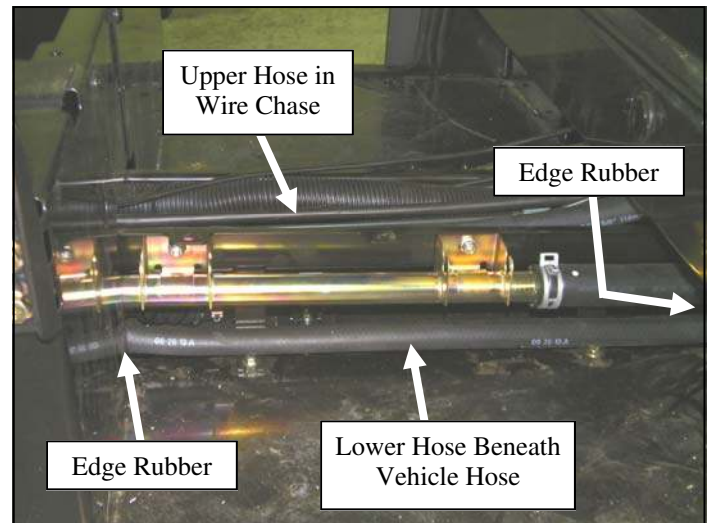

FIGURE 5.14
5.14 Route the hoses back under the rear seat through the chaseway as shown in Figure 5.14. The upper hose should run in the chaseway next to the vehicle wire harness. The lower hose should run beneath the vehicle coolant hose. Be sure to install edge rubber on the sharp steel edges where the lower heater hose enters into the rear foot well as well as where it exits under the rear seat.